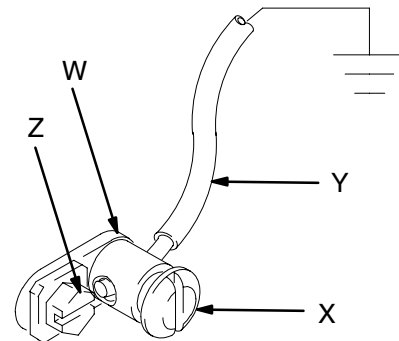

Fig. 1
- *Pump:* Use a ground wire and clamp as shown in Fig. 1.
1. *UL-Listed Pumps:* Use a ground wire, connector, and clamp. See Fig. 1. Loosen screw (X). Insert one exposed end of a 12 ga (1.5 mm²) minimum ground wire (Y) through the eye of the ground terminal connector (W) and tighten screw (X) securely. Connect the other end of the wire to a true earth ground. Order Part No. 237569 Ground Wire and Clamp.
2. *Non UL-Listed Pumps:* See Fig. 1. Remove the ground screw (Z). Fasten the ground connector (W) onto the pump with the ground screw (Z) and tighten securely. Loosen screw (X). Insert one exposed end of a 12 ga (1.5 mm²) minimum ground wire (Y) through the eye of the ground terminal connector (W) and tighten screw (X) securely. Connect the other end of the wire to a true earth ground. Order Part No. 222011 Ground Connector/Wire and Clamp.